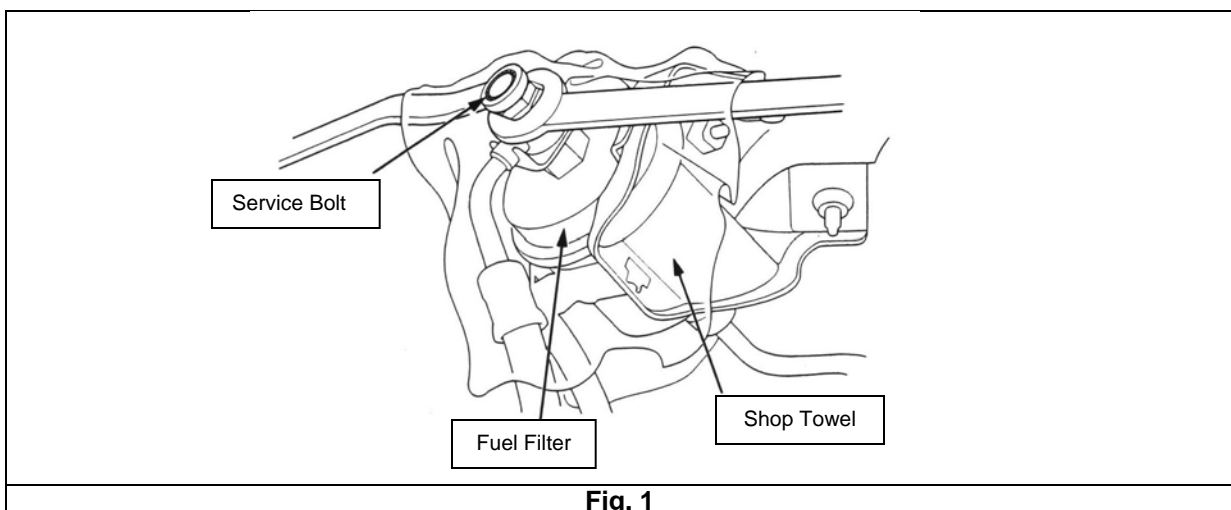

Fig. 1
- b) **On models equipped with a 6mm service bolt: (Fig. 1)**